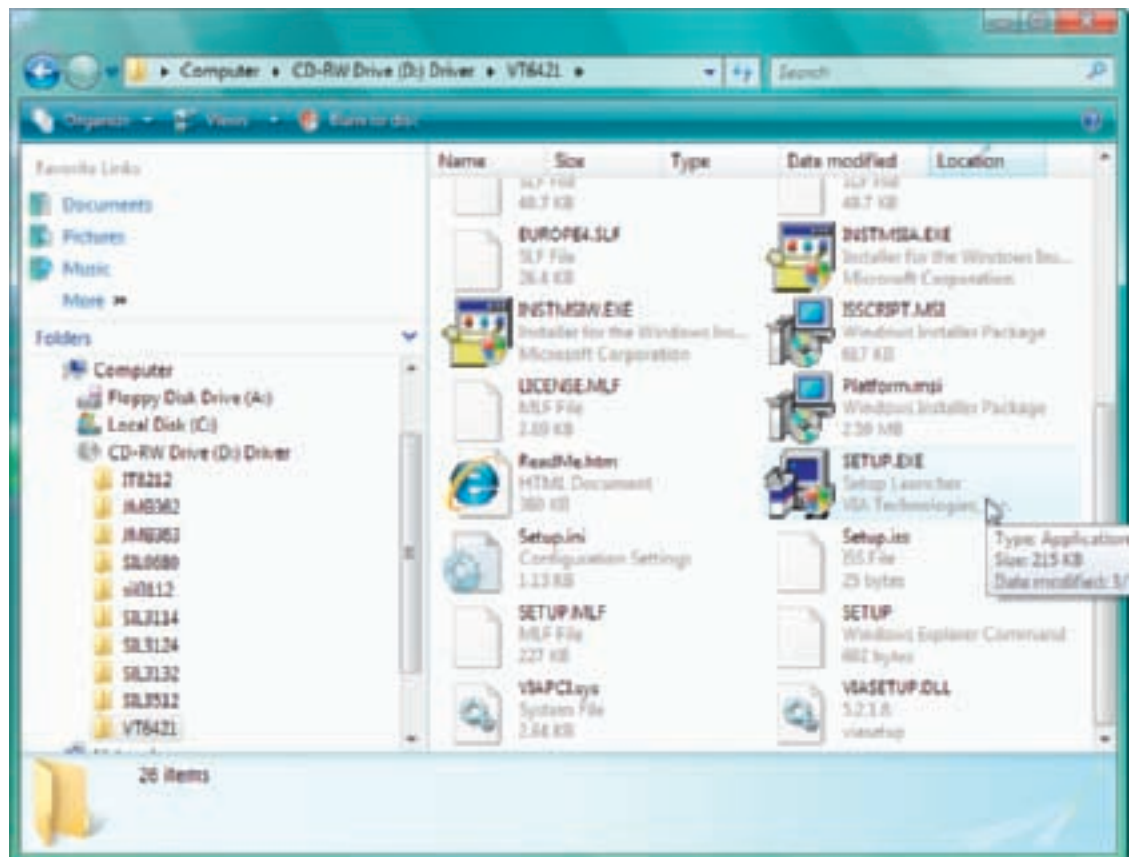

Figure 9-83 Locate the correct folder containing the Setup program on CD
5. If you are using the manufacturer installation routine, insert the driver CD and locate the Setup.exe program. Notice in Figure 9-83 ten folders on a CD listed on the right side of the screen. Each folder contains a Setup program and drivers for ten controller card models that this one CD supports. Look for your model number printed on the adapter card box. Double-click **Setup.exe** in your model's folder, respond to the UAC box, and follow the instructions on-screen to complete the installation.